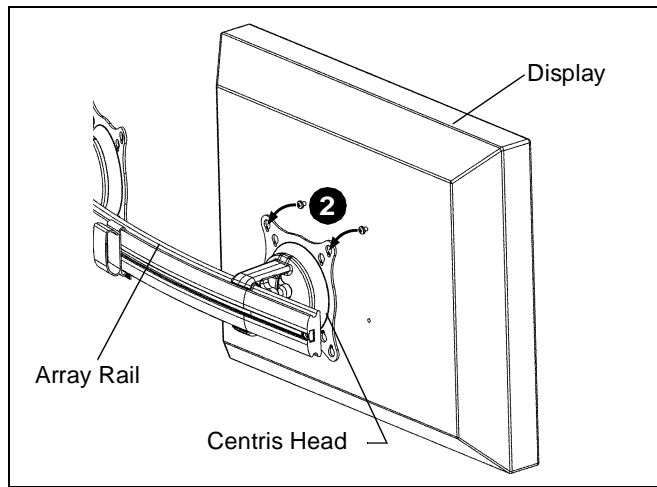
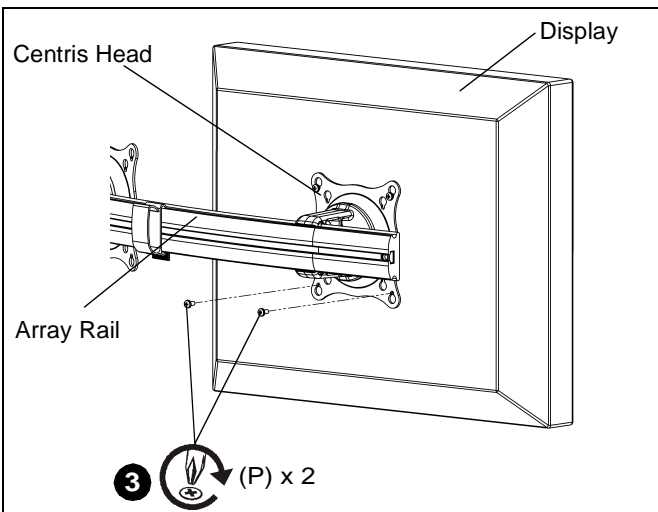

Figure 8
Figure 9
2. Hang display on Centris head. (See Figure 8)
3. Install bottom two M4 x 12mm Phillips pan head screws (P) through Centris head mounting holes and into lower mounting holes in display back.
4. Tighten ALL four M4 x 12mm Phillips pan head screws (P). (See Figure 9)